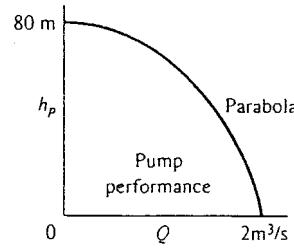

Fig. P6.80
**6.80** The head-versus-flow-rate characteristics of a centrifugal pump are shown in Fig. P6.80. If this pump drives water at 20°C through 120 m of 30-cm-diameter cast-iron pipe, what will be the resulting flow rate, in  $\text{m}^3/\text{s}$ ?
**6.81** The pump in Fig. P6.80 is used to deliver gasoline at 20°C through 350 m of 30-cm-diameter galvanized iron pipe. Estimate the resulting flow rate, in m3/s. (Note that the pump head is now in meters of gasoline.)